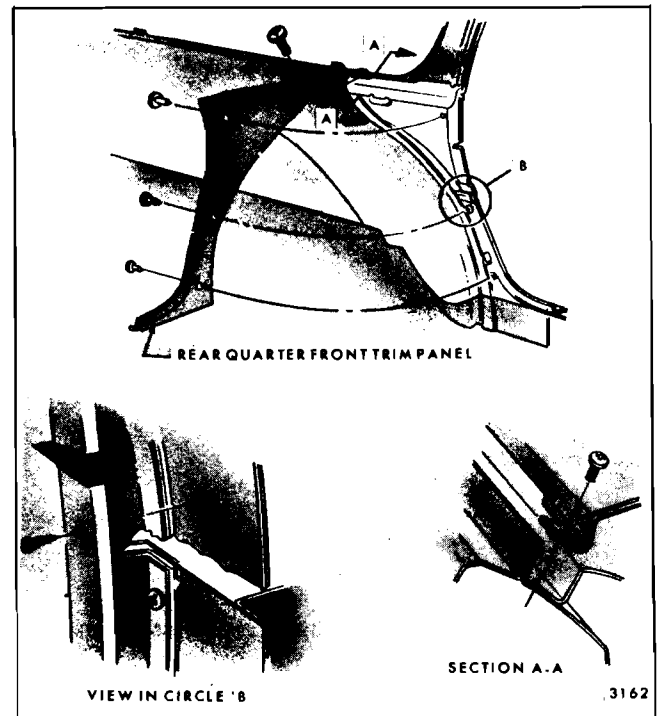

Fig. 14-34—Rear Quarter Front Trim Panel
3. Remove screws securing trim panel as shown in Fig. 14-34 and remove trim panel.